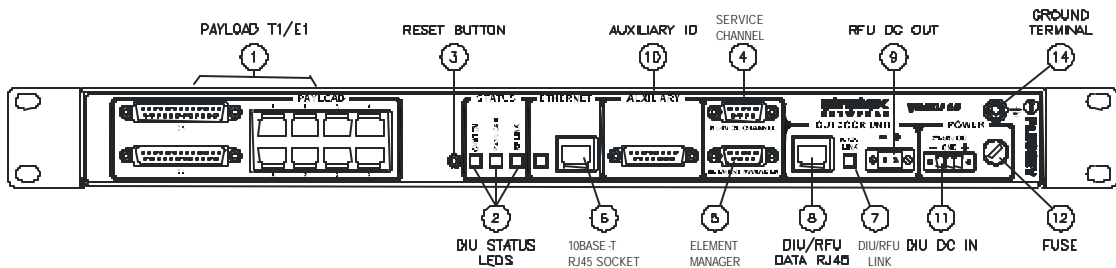

Figure 3-5. Velox LE 25 DIU Front Panel
- Velox LE 25 DIU (scalable up to 8 T1/E1), (see Figure 3-5 on page 3-2. Note that there are no controls, indicators or connectors on the back panel of this DIU).